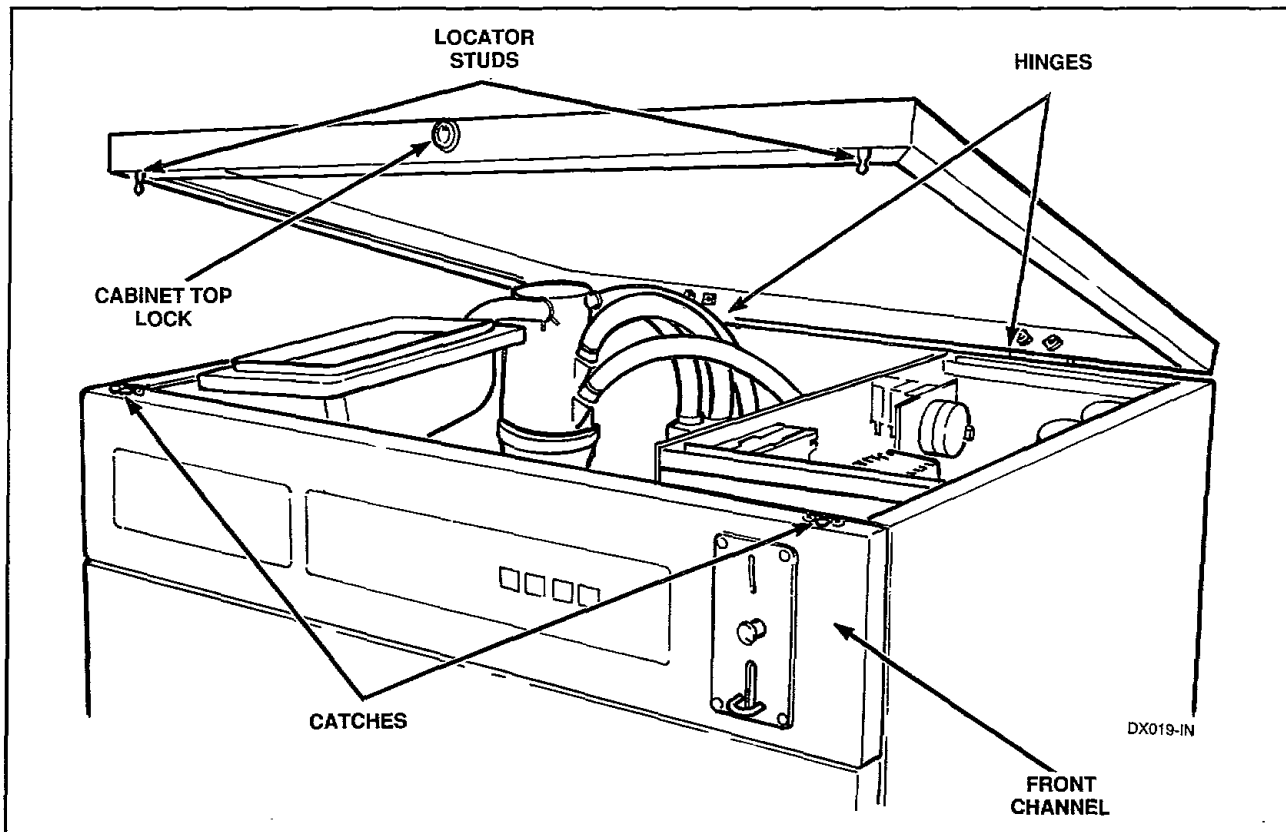

Figure 2
- b. Remove two screws holding one hinge to rear of cabinet top flange, *Figure 2*.